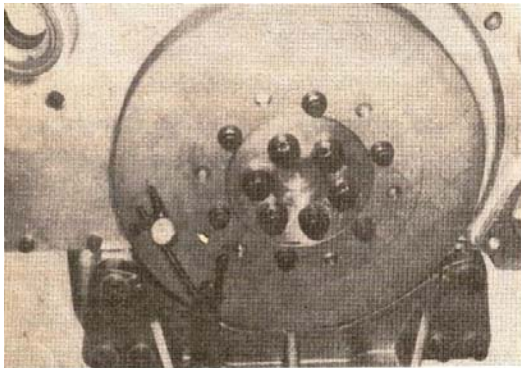

Fig. 14-79, Check the vibration damper wobble
- c. Move the dial indicator gauge to the face of the vibration damper. Put the crankshaft at either the front or rear limit of the thrust clearance. Turn the indicator to zero. Fig. 14-79.